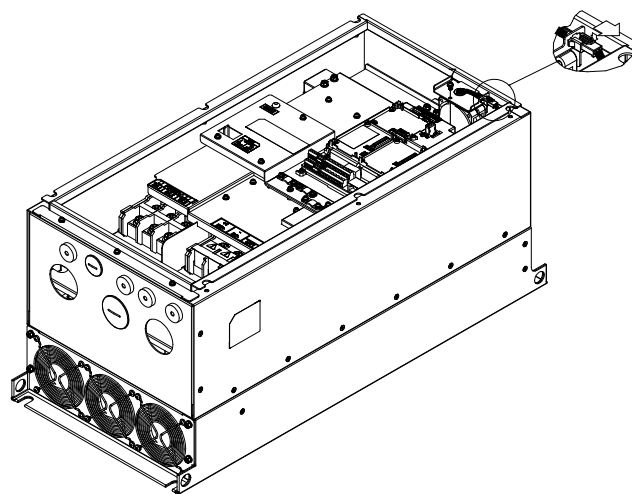

Figure 7-70
3. Loosen the screw 7 then remove the fan kit. (Refer to Figure 7-70)